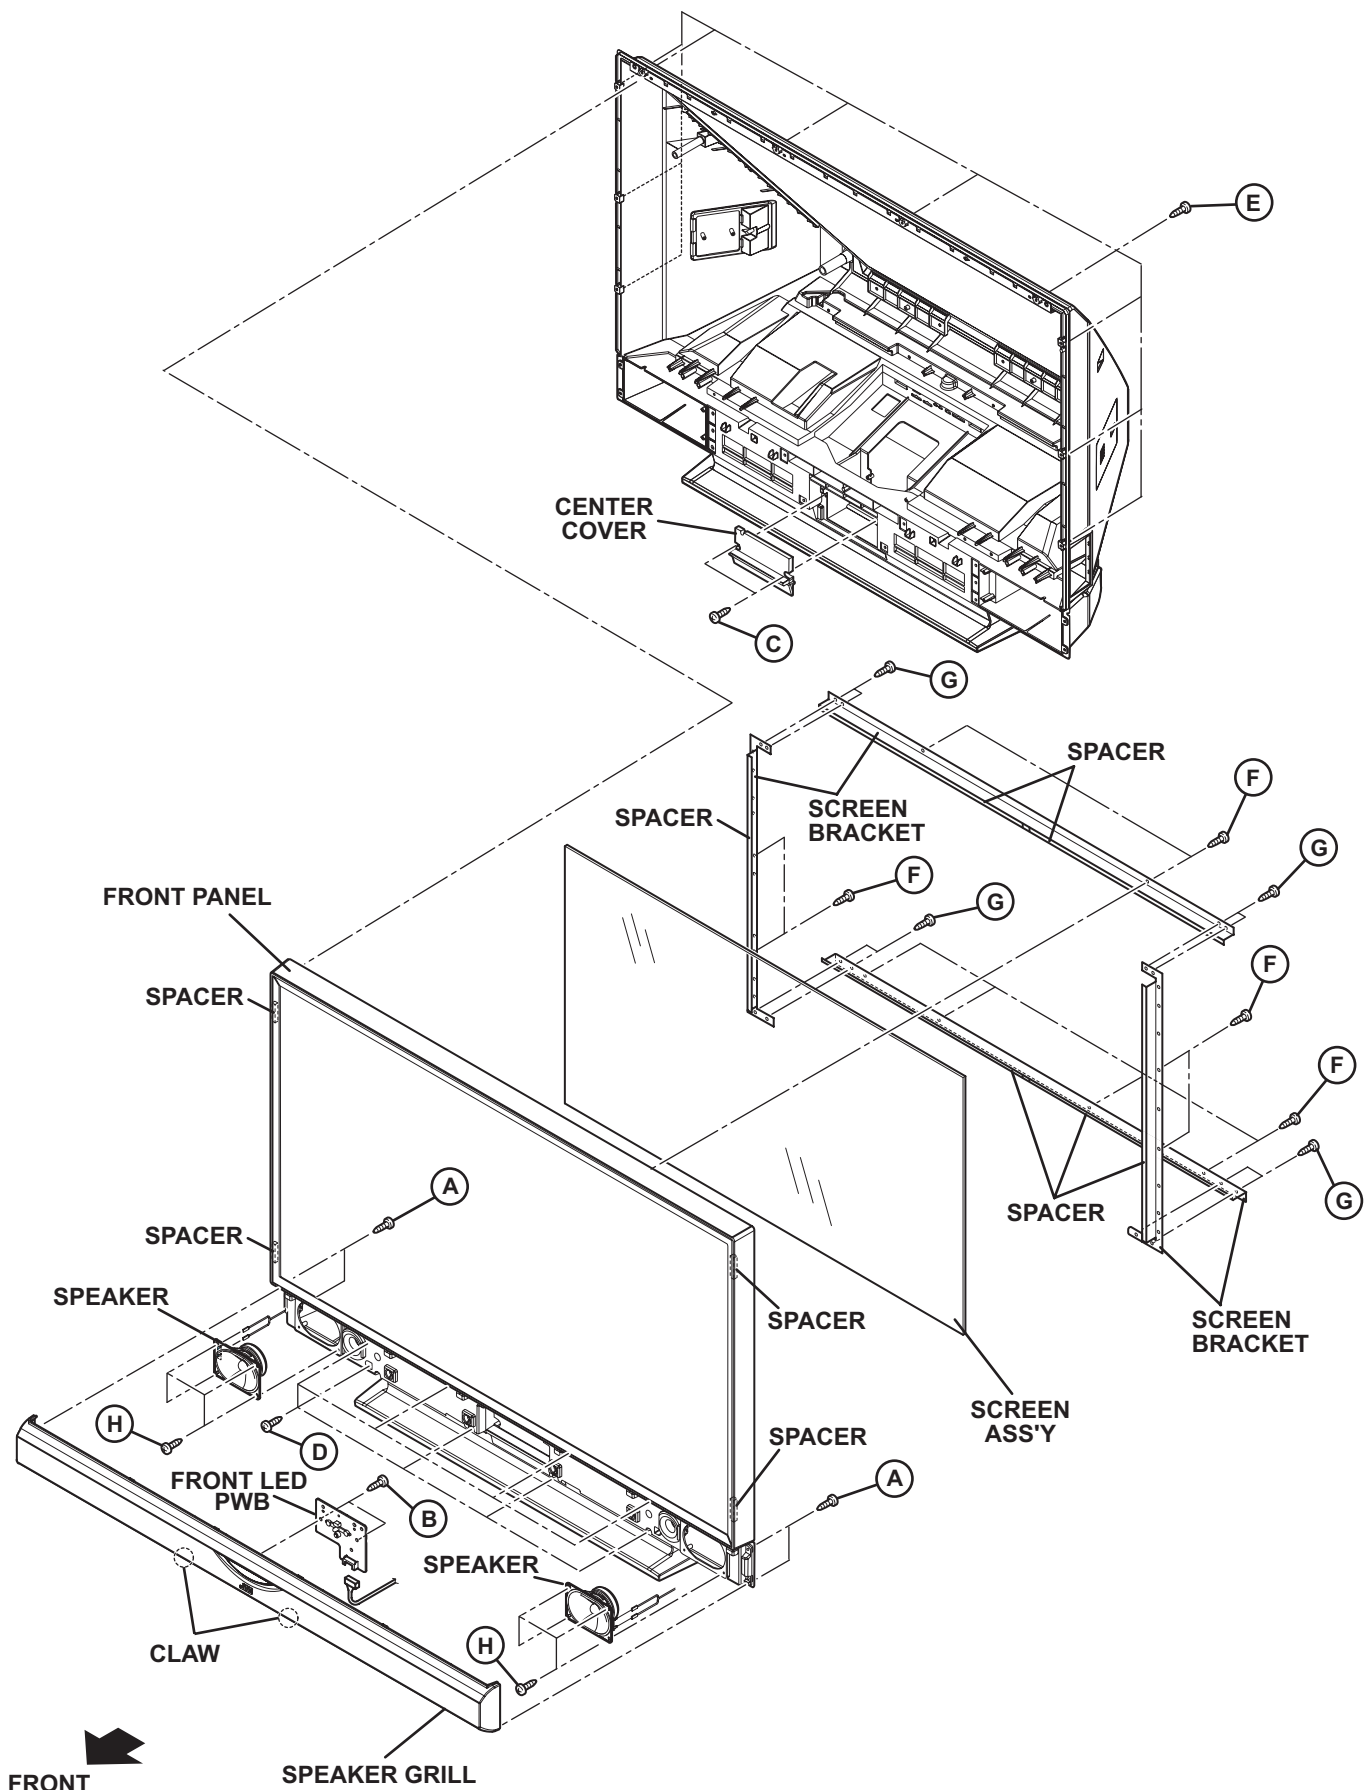

Fig.3
3.1.2.1 REMOVING THE SPEAKER GRILL (Fig.3)
3.1.2.2 REMOVING THE FRONT LED PWB (Fig.3)
- (1) Remove the 2 screws [B].
- (2) Remove the FRONT LED PWB.
3.1.2.3 REMOVING THE CENTER COVER (Fig.3)
- (1) Remove the 2 screws [C].
- (2) Remove the CENTER COVER.
3.1.2.4 REMOVING THE FRONT PANEL WITH SCREEN ASS'Y (Fig.3)
3.1.2.5 REMOVING THE SCREEN ASS'Y (Fig.3)
3.1.2.6 REMOVING THE SPEAKER (Fig.3)